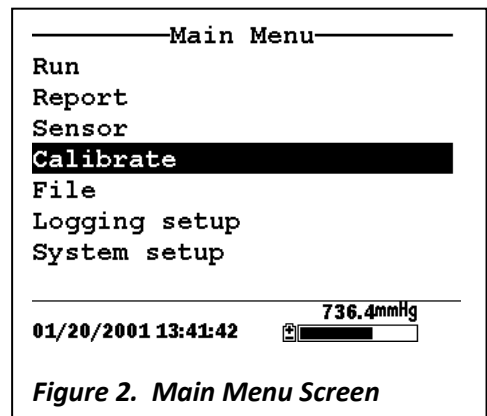

Figure 2. Main Menu Screen
2. Press the **Escape** key to display the main menu screen (figure 2).